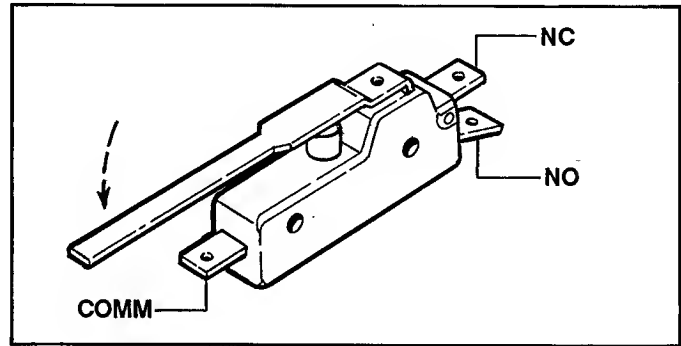

FIGURE 3.10
1. Disconnect wire connectors from terminals. See Figure 3.10.